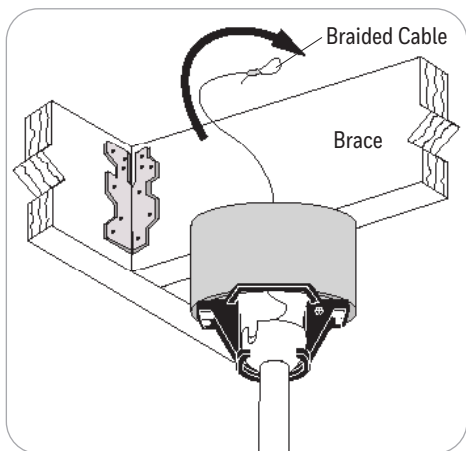

Figure 5.1
1. **WARNING:** Secondary support is required for this product. Failure to follow the steps below could result in property damage and/or personal injury. Feed the loop of the braided cable, preassembled to the motor assembly, up through the outlet box mounted in the ceiling (Figure 5.1).